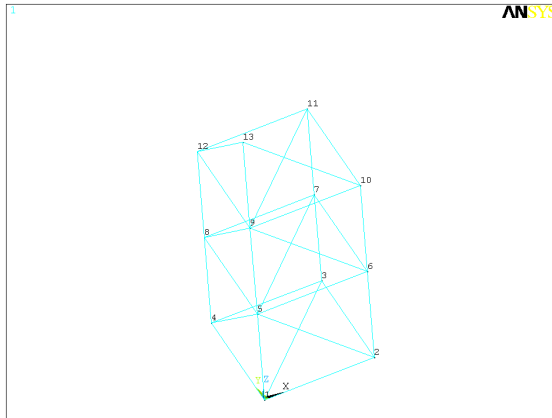
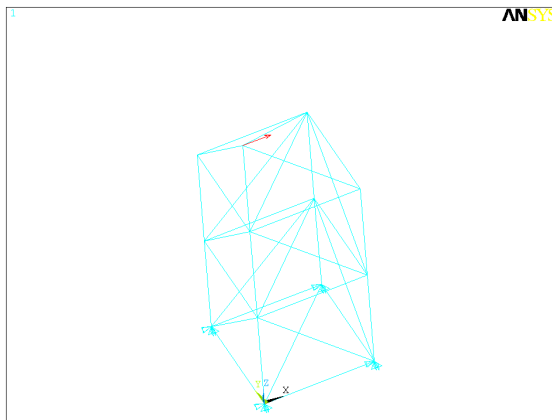

Figure 4.5
Figure 4.1 (repeated)
6. Finally, create the out-of-plane diagonal elements. These should slope down from the node in one tier closest to the origin to the adjoining nodes in the one below (Figure 4.5), and from the node in one tier farthest from the origin to those same nodes in the one below. There should also be one last element from node 13 to node 11. The final configuration should match Figure 4.1 (repeated below).